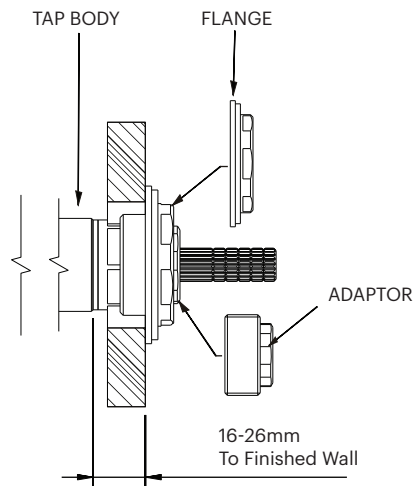
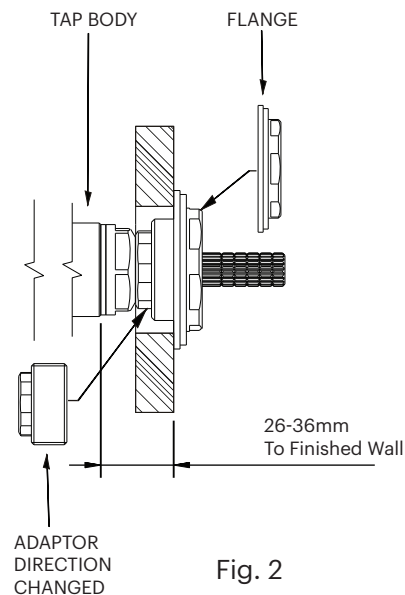

Fig. 1
Fig. 2
1. The finished wall hole size must be $\varnothing 32\text{-}\varnothing 40\text{mm}$. Set the wall breach in the wall, minimum 16mm to maximum 36mm depth from the finished wall surface. Note: 16-26mm (see Fig. 1) or 26-36mm (see Fig. 2) to finished wall for correct installation.
5. Screw the flange onto the adaptor clockwise until it stops. This adaptor can be fitted either way to accommodate the depth of breach shown in Fig. 1 and Fig. 2. Apply flexible sealant to the base of the flange; screw the adaptor with flange together onto the locknut until flange is flush with the wall.